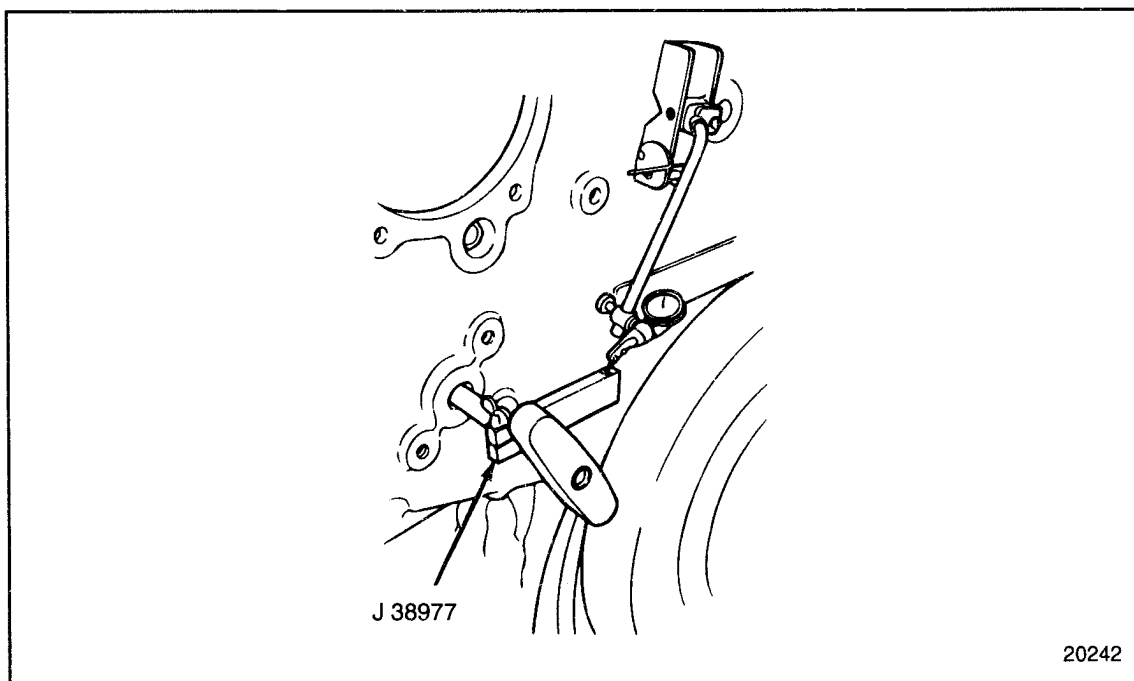

FIGURE 1-264 Water Pump Gear Lash Tool Method
- [b] Install the water pump gear lash tool, J 38977, through the hole in the gear case and thread it into the special water pump drive gear retaining bolt. See Figure 1-264.